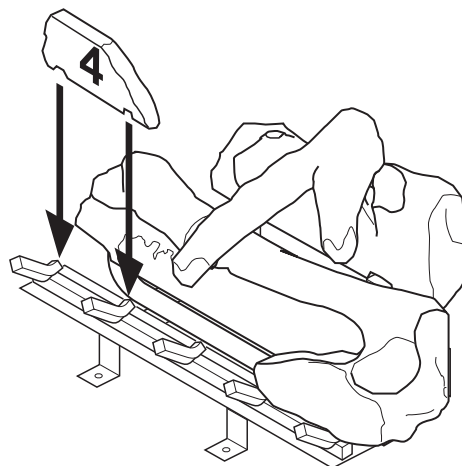

Figure 31 - Installing Log No. 4
5. Place log #4 (small log) onto front left part of grate making sure the notches fits over the prong of the grate. See Figure 31.